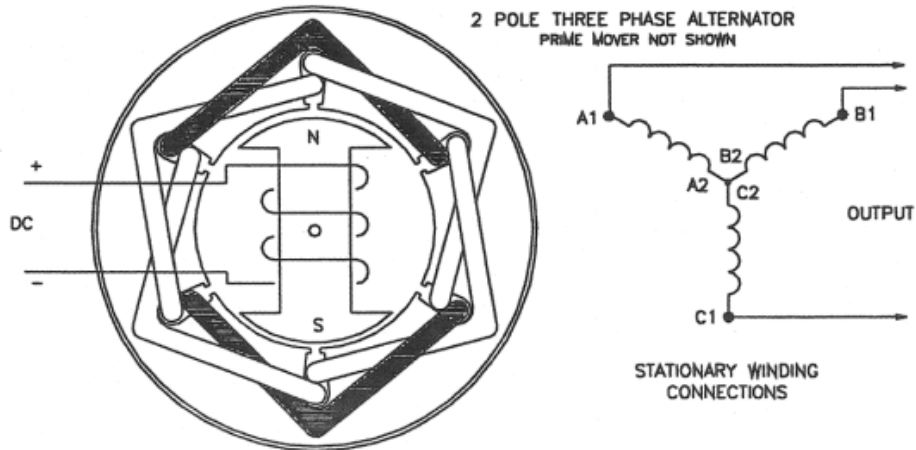

Figure 3 - Simplified three phase two pole alternator.
9. If a d.c. field is rotated within a three phase stator winding similar to the one in a typical induction motor, each revolution of the rotor will produce three separate sinusoidal voltages 120 degrees out of phase with each other, and the machine would be a three phase alternator or three phase a.c. generator. A simplified diagram of a 2 pole three phase alternator is shown in Figure 3.